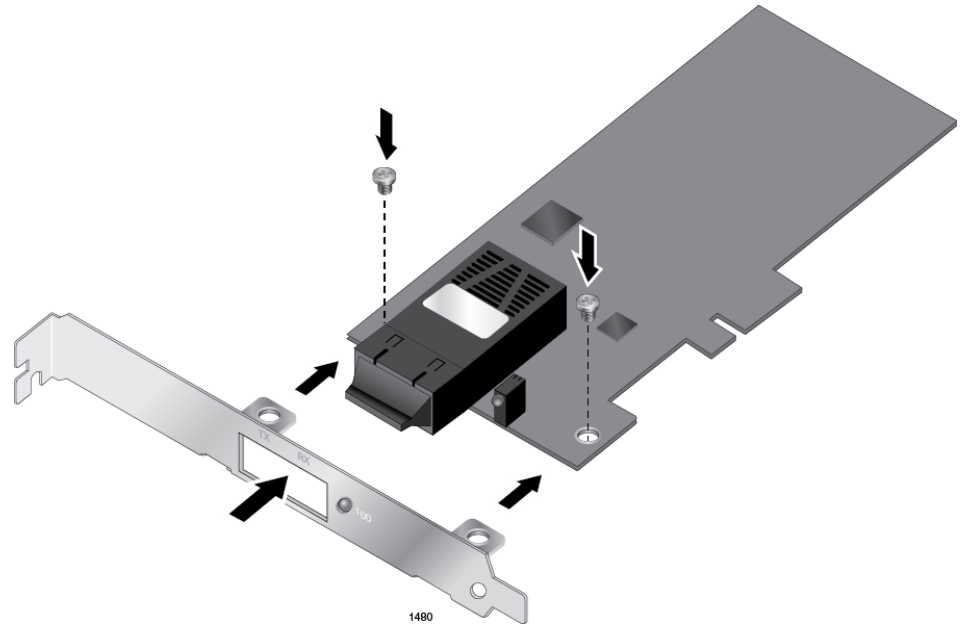

Figure 5. Fastening Screws onto Standard Bracket
2. Align the tabs of the standard bracket with the holes on the adapter card and fasten the screws onto the adapter card. See Figure 5 on page 29.